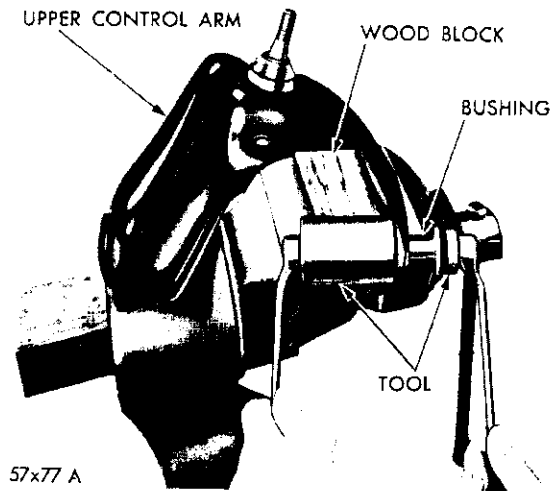

Fig. 18—Installing the Upper Control Arm Bushing
(1) Position the flange end of new bushing in Tool C-3710 and then support the control arm squarely.
(2) Force the bushings into the control arm (From outside) until the tapered portion of the bushing seats on the arm (Fig. 18).